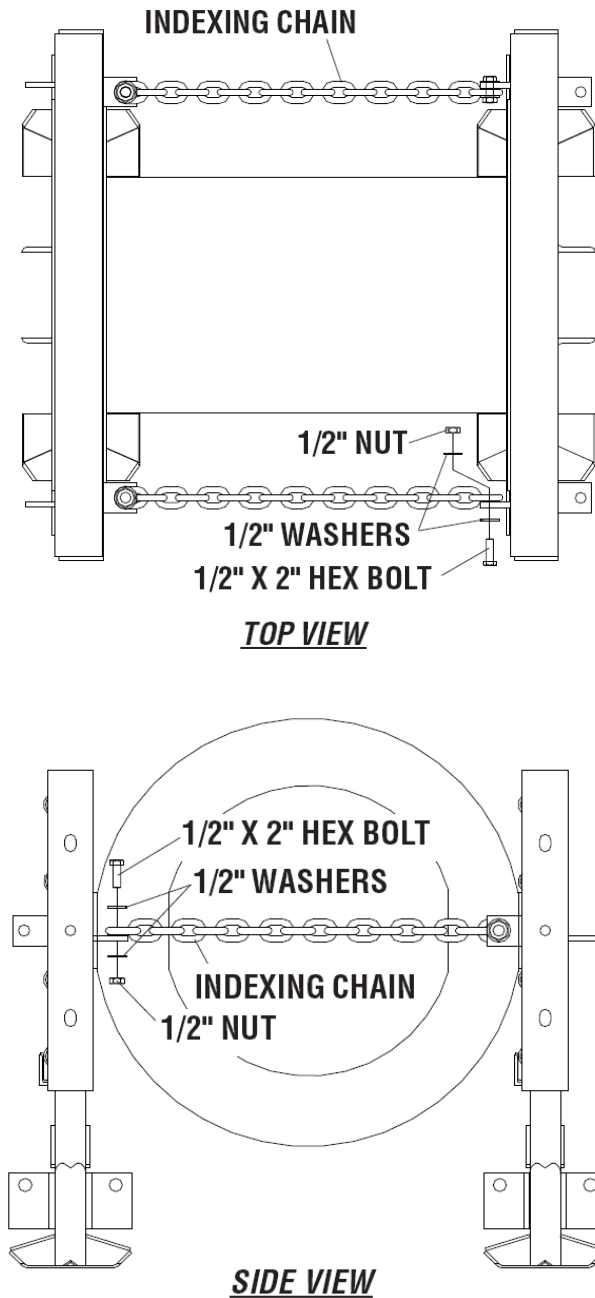

Figure 58
Use two (2) Indexing Chains between each Bay from Bay 3 to Backup. Attach Indexing Chains using 1/2" diameter x 2" long hex head bolts, nuts, and washers as shown in Figure 58.